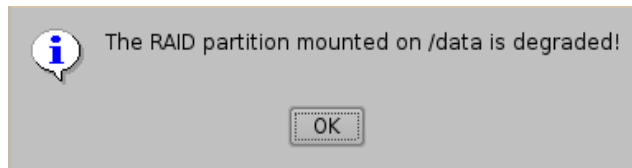

Figure 19: Degraded RAID Alert Message
- The system will give a pop-up message when the RAID is degraded. The message will not appear when you are syncing the drive back in the RAID. This message will also appear when the RAID is healthy and you do a reinitialize process (Figure 19).